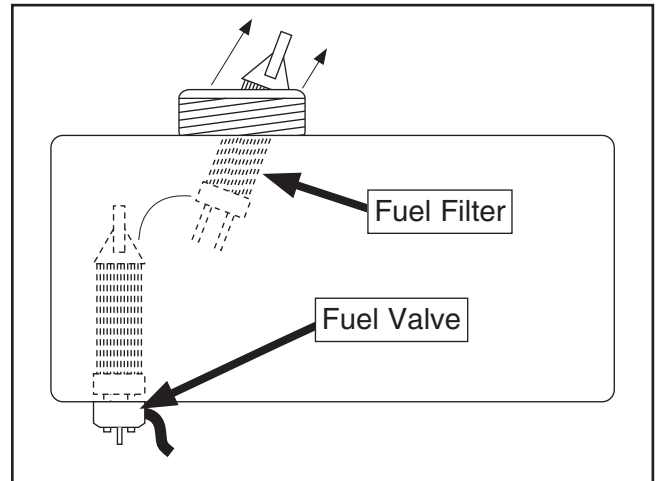

Figure 26. Removing the fuel filter.
3. Remove the fuel tank cap and extract the fuel filter through the top of the tank as shown in **Figure 26**.